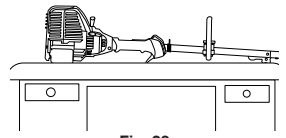

Fig. 23
- Place the engine on a flat, level surface with the cutting head shield hanging off a work bench or table to get a proper oil level reading (Fig. 23).